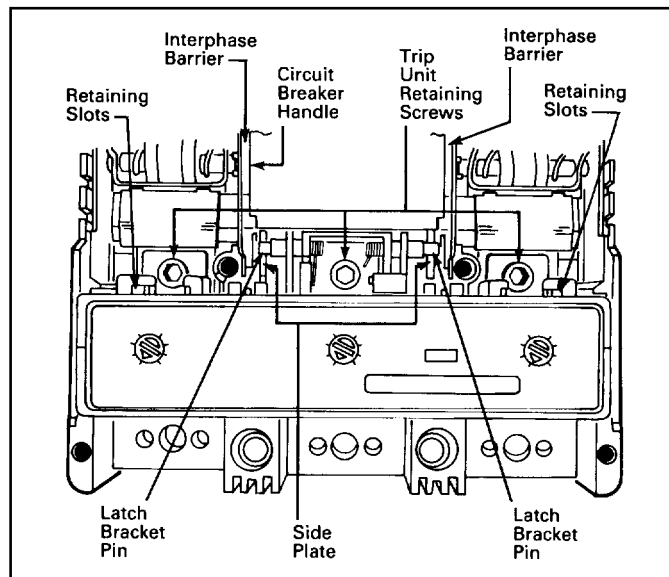
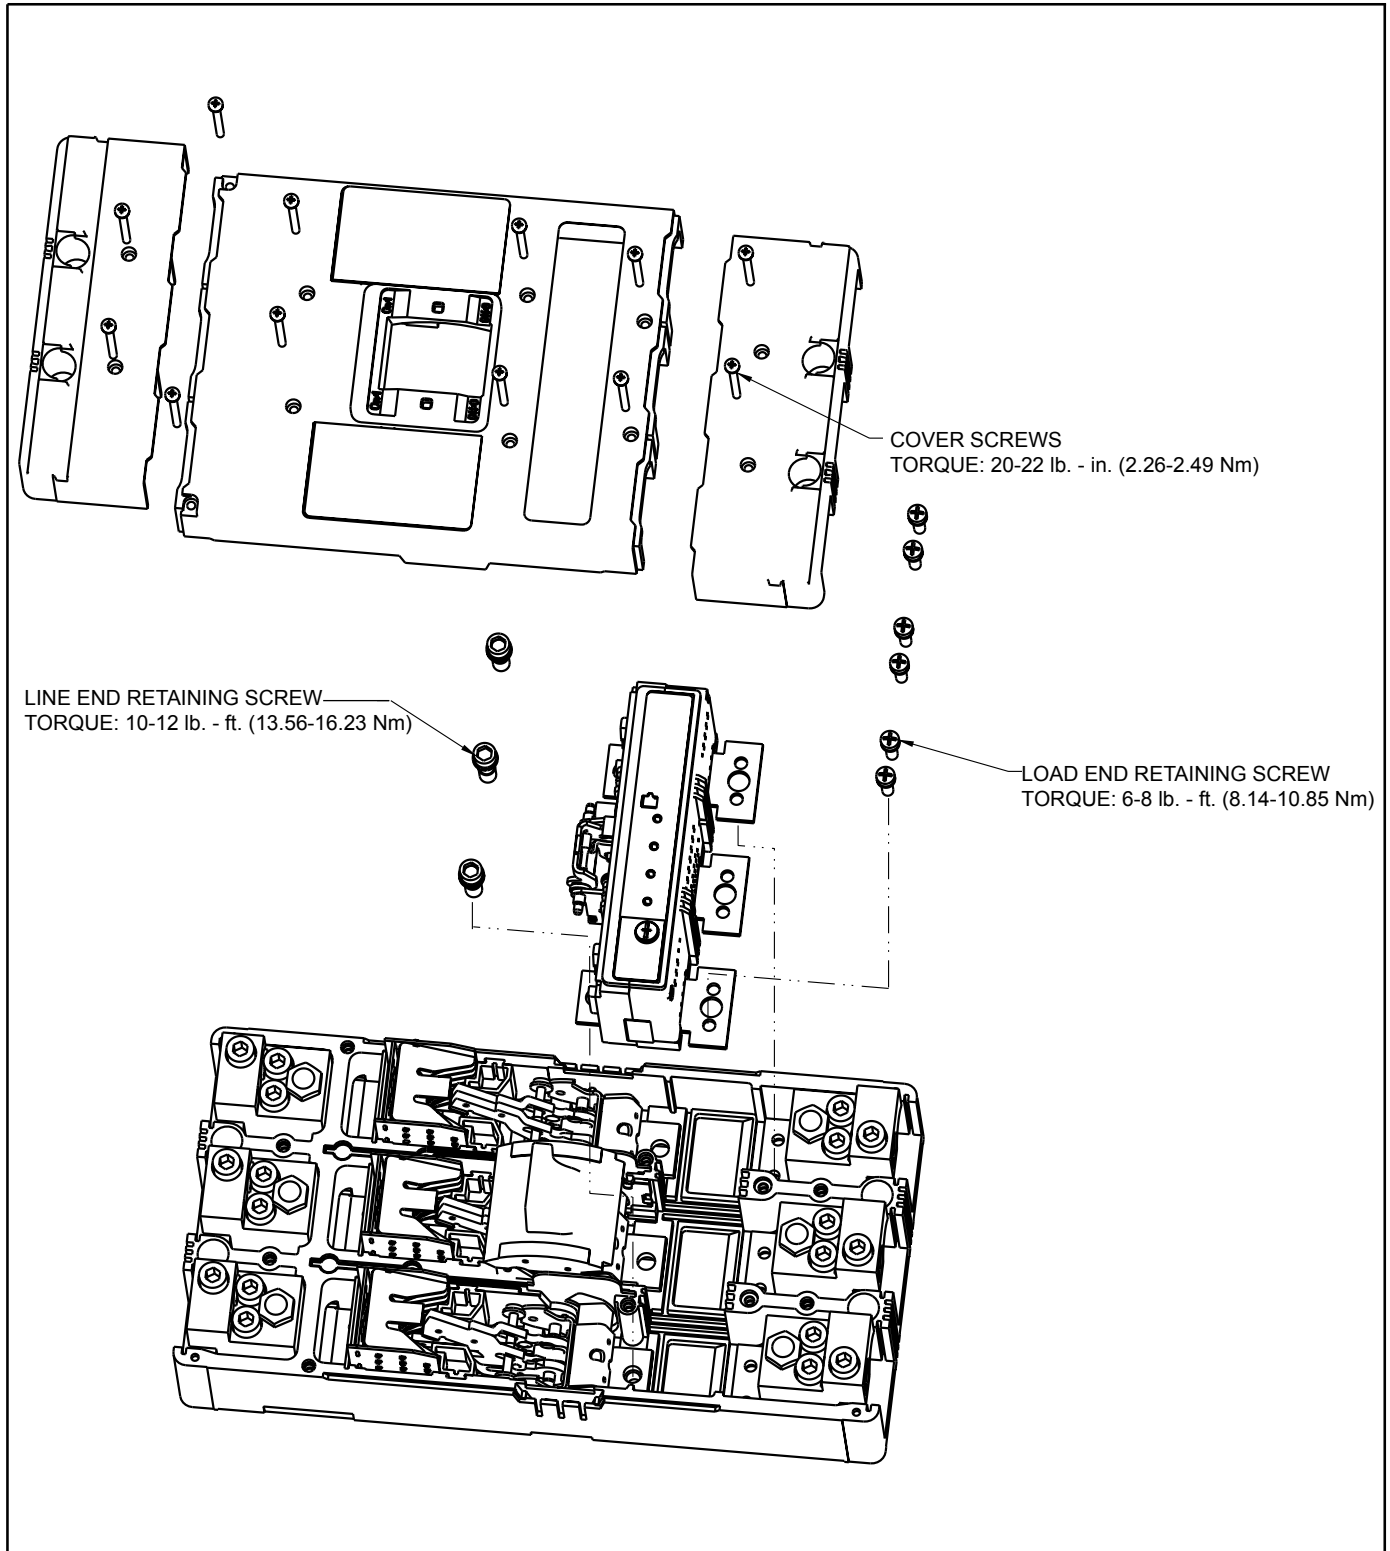

Fig. 2-1 Trip Unit Installed in an LD Frame.
Fig. 2-2 Trip Unit and Covers Installation in an MDL Frame.
2-4. Position trip unit in base. Make sure latch bracket pin is properly seated in slots in side plates (see Fig. 2-1). If necessary, push circuit breaker handle towards the closed position to help seat trip unit.
- 2-5. Screw in and tighten the trip unit retaining screws in each pole (mechanism pole first). Torque the line-end screws to 10-12 lb ft (13.56-16.27 Nm) (see Fig. 2-1). For the MDL-frame, torque the load-end screws to 6-8 lb ft (8.14-10.85 Nm) (see Fig. 2-2).
- 2-9. Install the circuit breaker main cover and terminal cover on the LD-frame. Install the main cover and both terminal covers on the MDL-frame. Secure with the original screws and torque them to 20-22 lb in (2.26-2.49 Nm) (see Fig. 2-2).